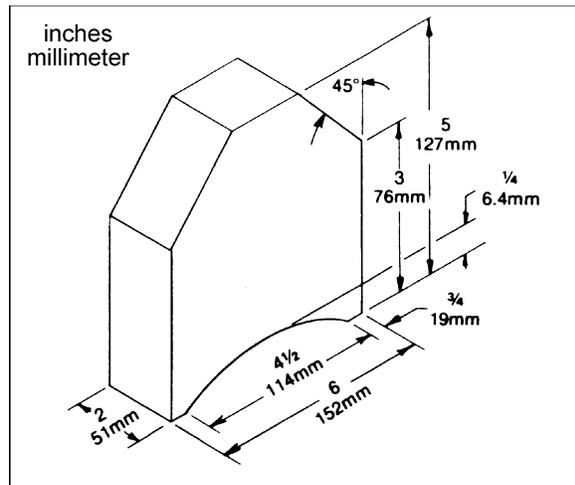

Figure 13
2. Place a dial gauge (not provided) under a knife in the cutterhead. If a dial gauge is not available, use a finished block of wood with notches cut out for the table rolls, in conjunction with a feeler gauge. See Figure 13 for an example of a wood block you can make and use as a gauge.
Use a gauge, such as a bed and feed roll gauge or wood gauge block (see Figure 13) to check the outfeed roller in the same manner as for the infeed roller. Adjust as necessary using the screws (E, Figure 15). When finished adjusting, tighten the hex nuts on the screws.